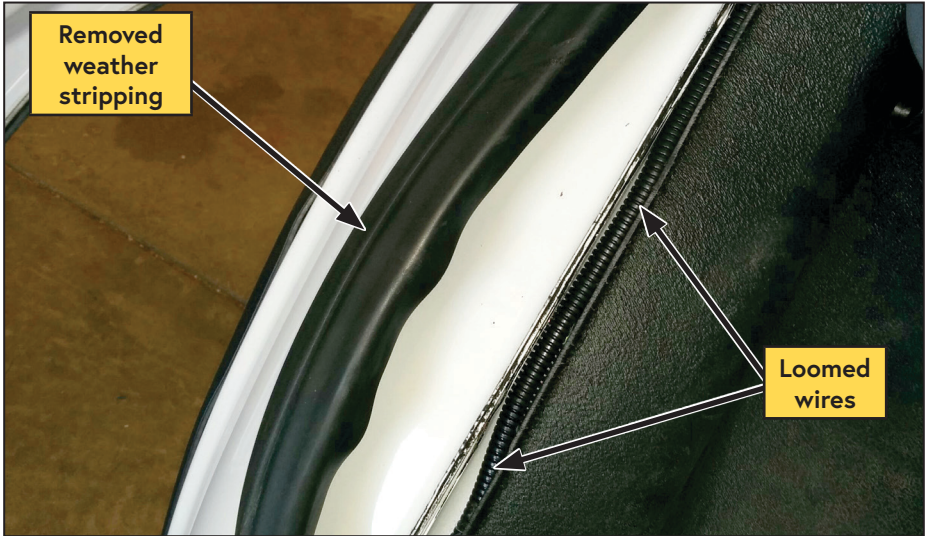

Figure 54 — Route wires
- Remove the driver side door weather stripping from the channel, and route the loomed wires between the channel and the driver side floor (Figure 54).